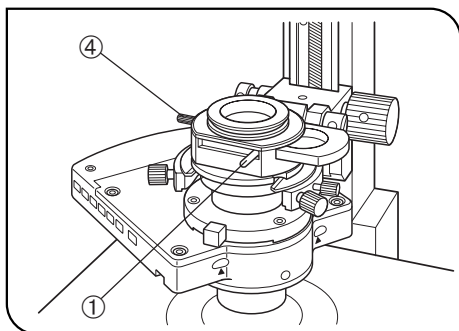

Fig. 49
(Figs. 49 to 51)
2. Move the polarizer detaching lever ① on the IX-LWPO polarizer to engage the polarizer in the light path. (Fig. 49)
7. While observing the objective's exit pupil, rotate the polarizer rotation/clamping knob ④ on the polarizer unit horizontally until the black interference stripe becomes darkest. This is the position for use of the polarizer. (Figs. 49 & 51)